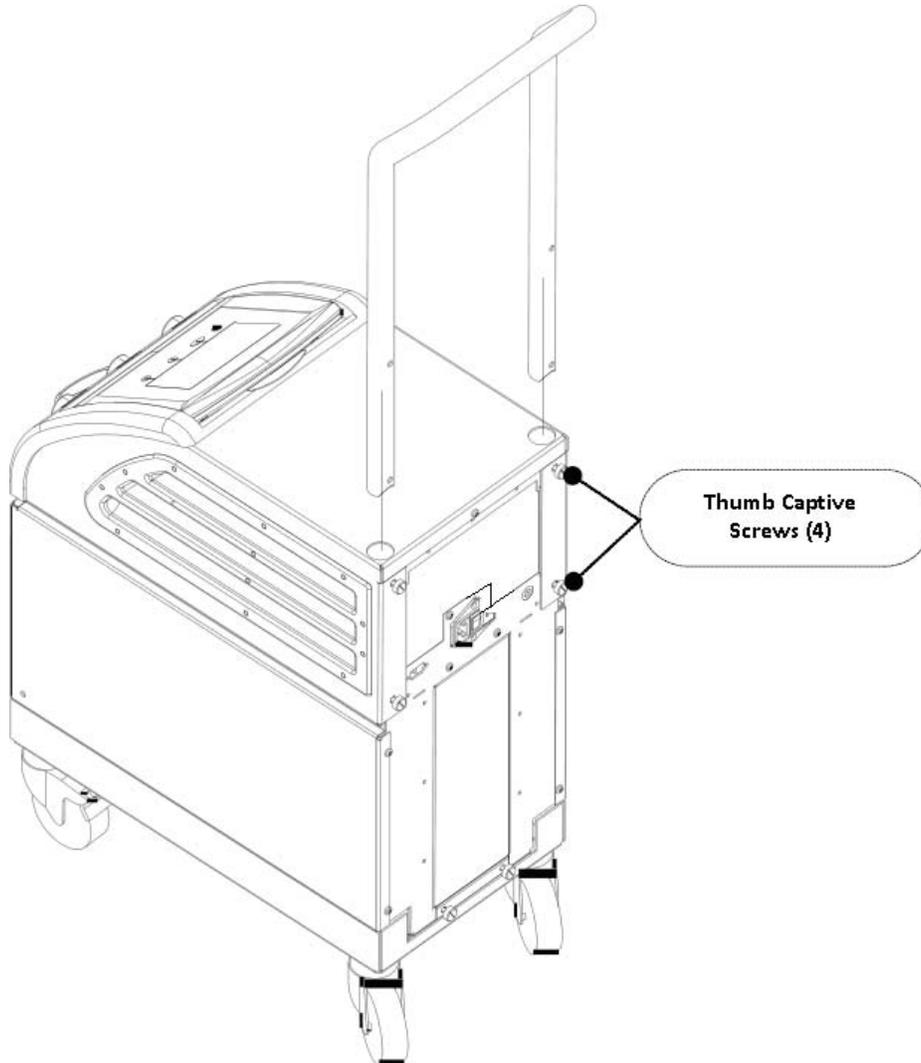

Figure 4-1: Handle Assembly
2. Slide the two ends of the handle into the holes in the top cover (pay attention to the direction of the curve in the handle) until the handle is inserted all the way in (see Figure 4-1).